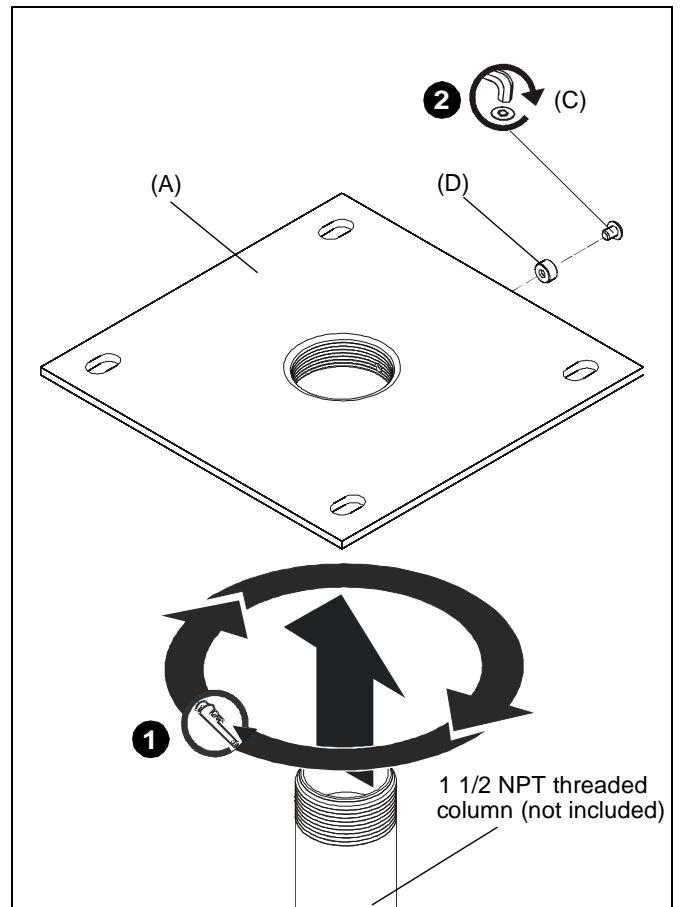

Figure 3
1. Install 1-1/2" NPT or NPSM following ANSI/ASME B1.20.1 (Schedule 40, 0.154" minimum thickness steel or aluminum - ASTM B221) threaded extension column (not included) into threaded collar until tight, with a minimum of four threads engaged. (See Figure 3)
2. Install #10-24 1/4" button head security screw (C) through security spinner (D) and into hole on ceiling plate (A) to secure pipe to mount. (See Figure 3)